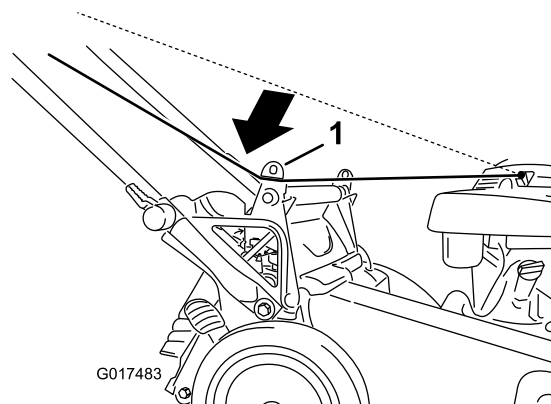

Figure 22
1. Route the starter rope around the lower rope guide (Figure 22).